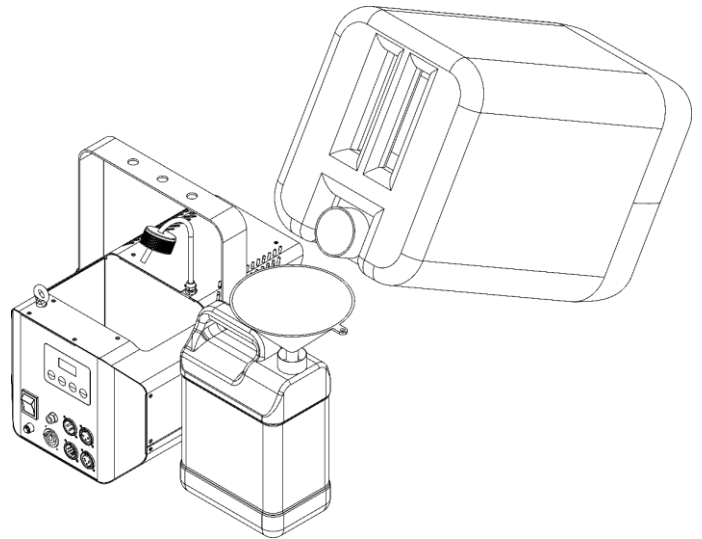

Fig. 11
- 05) Use a funnel to pour the fog fluid into the tank, as shown in Fig. 11.